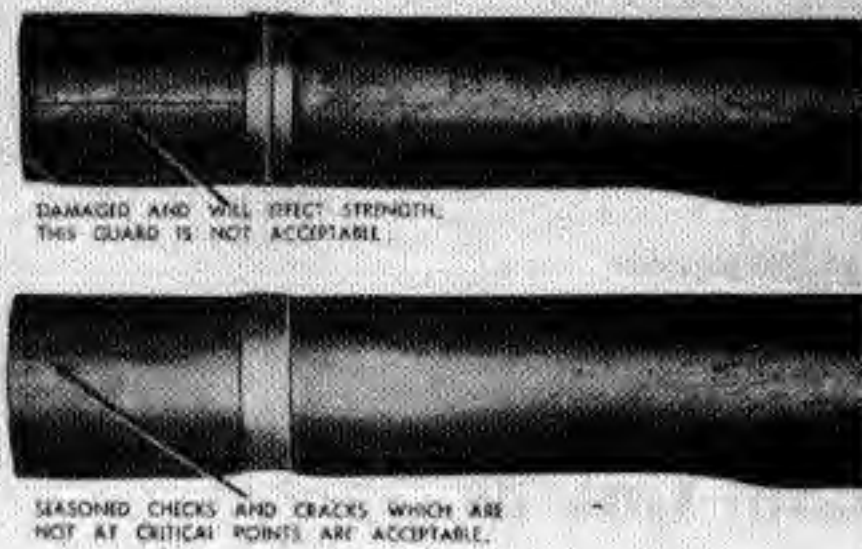

Fig. 156. Hand guards, defects.
81. Hand guards: inspect hand guards for defects illustrated in Fig. 156.